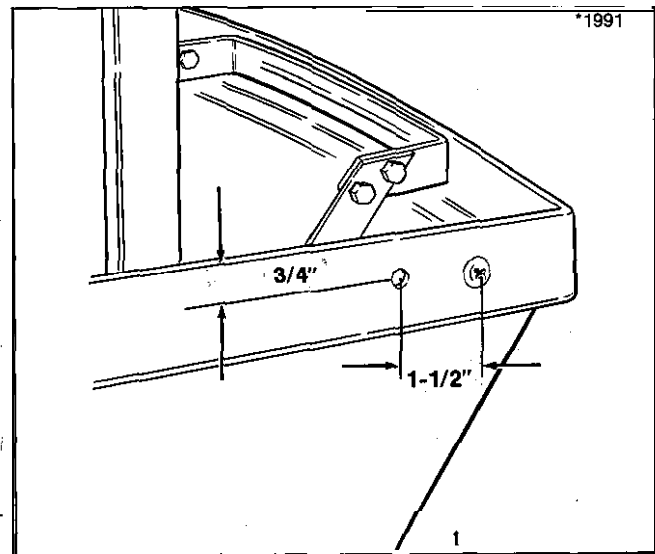

Figure 6.
1. Drill $13/32$ " hole in the right hand side of the cab frame, approx. $3/4$ " down and $1-1/2$ " from capscrew, as shown in figure 6.